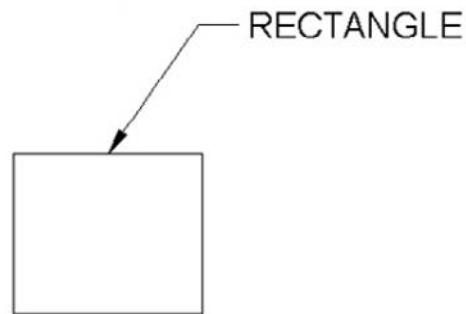

Figure 6.11 – Leader
- **Leader and Multileader** – This is an *arrow and label* combination pointing at something (Figure 6.11).
Click with OSNAP precision on your shape, perhaps a midpoint on the top side as seen in Figure 6.11.